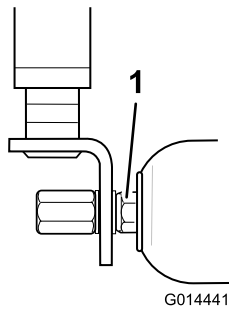

Figure 81
2. If there is excessive movement, carefully tighten the nuts at each end of the roller with the wrench just enough to remove any end play (Figure 81).